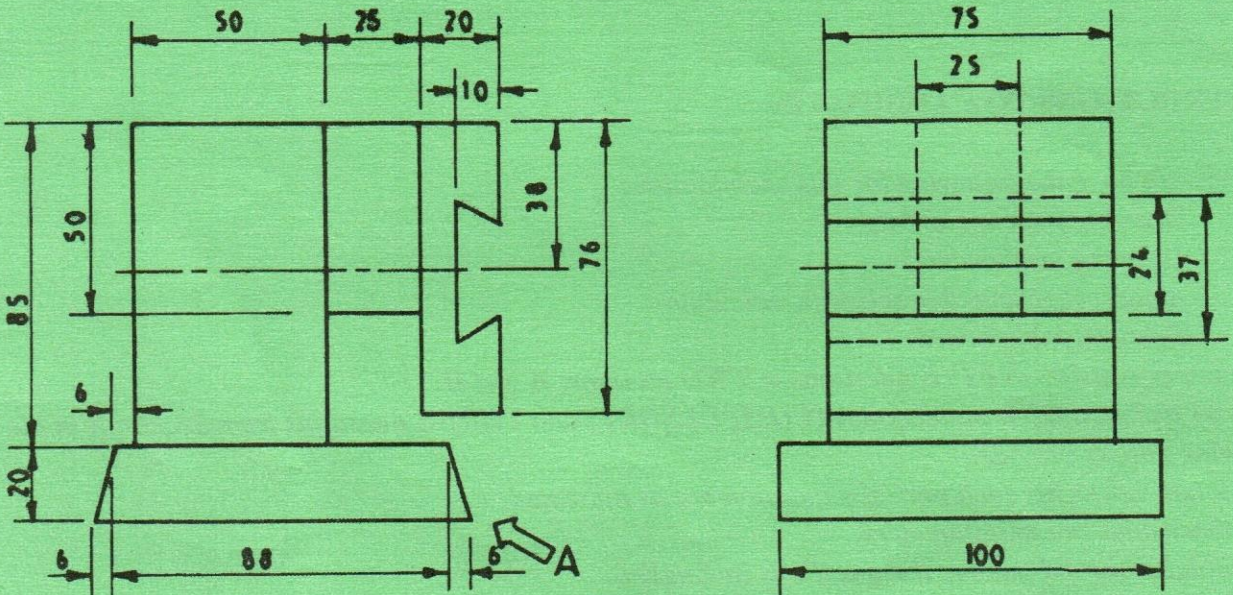

Fig. 2
2. Figure 2 shows two views of a dovetail slide drawn in third angle projection. Draw an isometric view of the slide, taking A as the lowest point. (20 marks)